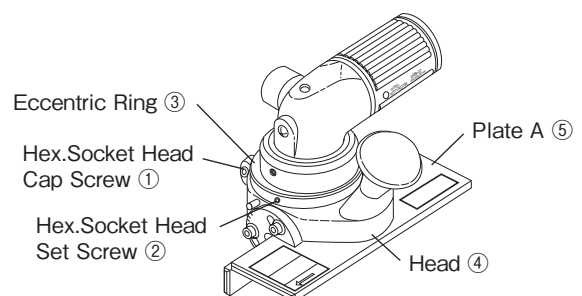
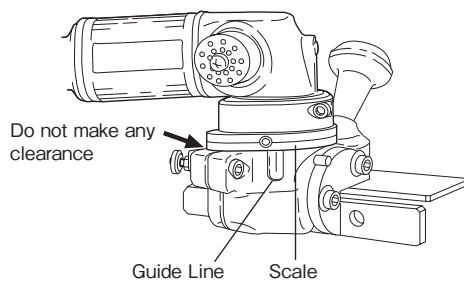

Fig. 5
Fig. 6
(1) Loosen the Hex. Socket Head Cap Screw ① of the Head ④ (Fig. 5).
(2) Turn the Head ④ to match the Guide line of Head ④ with the scale of Eccentric Ring ③ (Fig. 5, Fig. 6).
- If the Head ④ is in difficult position to work with loosen the Hex. Socket Set Screw ② of Eccentric Ring ③ to adjust the Head ④ in a proper position. After adjustment, tighten the Hex. Socket Set Screw ② firmly to prevent becoming loose during operation (Fig. 5).
(3) Firmly install the Head on the end of Eccentric Ring without making any clearance and tighten the Hex. Socket Head Cap Screw ① (Fig. 5).
- (1) Fix a radius chamfering Indexable Inserts.
- (2) Loosen the Hex. Socket Head Cap Screw ① of the Head ④ (Fig. 5).
- (3) Turning the Head, match the scale of the Eccentric Ring with the guide line according to the size of the radius chamfering Indexable Inserts.
- (4) Set the Head ④ to the edge of Eccentric Ring ③ without clearance (Fig. 5).
- (5) Conduct a test cutting. Readjust the Hex. Socket Head Cap Screw of the Head, so that sizes A and B become identical.